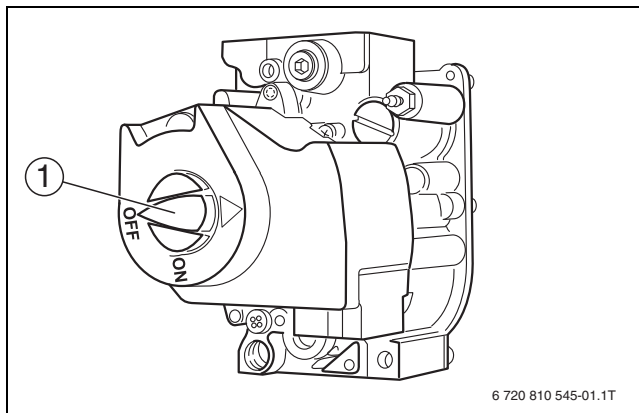

Fig. 3 Gas valve (OFF position)
5. Turn the gas valve ON/OFF knob (→ Fig. 3 [1]) clockwise to the **OFF** position. Do not use excessive force.
5. Turn the gas valve ON/OFF knob (→ Fig. 3 [1], page 5) clockwise to the **OFF** position. Do not use excessive force.
- ▶ Turn the gas valve ON/OFF knob clockwise to the **OFF** position (→ Fig. 3, page 5).